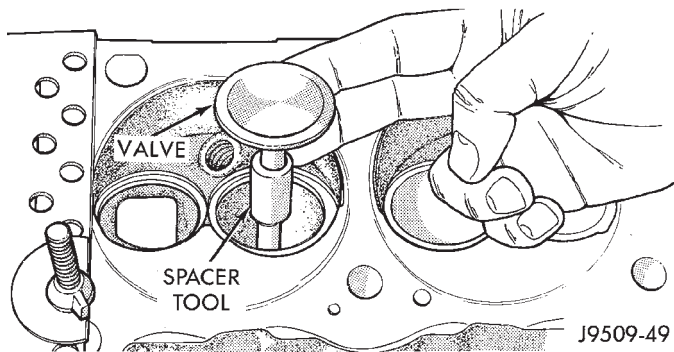

Fig. 55 Positioning Valve with Tool C-3973
- (1) Install Valve Guide Sleeve Tool C-3973 over valve stem and install valve (Fig. 55). The special sleeve places the valve at the correct height for checking with a dial indicator.